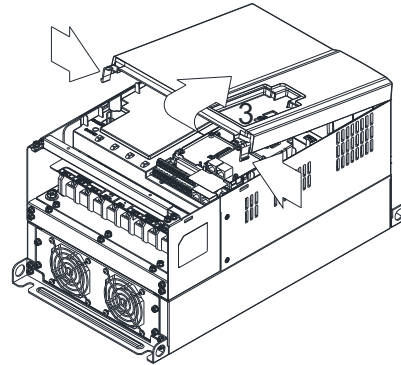

Figure 2
2. (Figure 2) Loosen screw 3; press the tab on the right and the left to remove the cover. Screw 3 Torque: 6–8 kg-cm / (5.2–6.9 lb-in.) / (0.6–0.8 Nm)